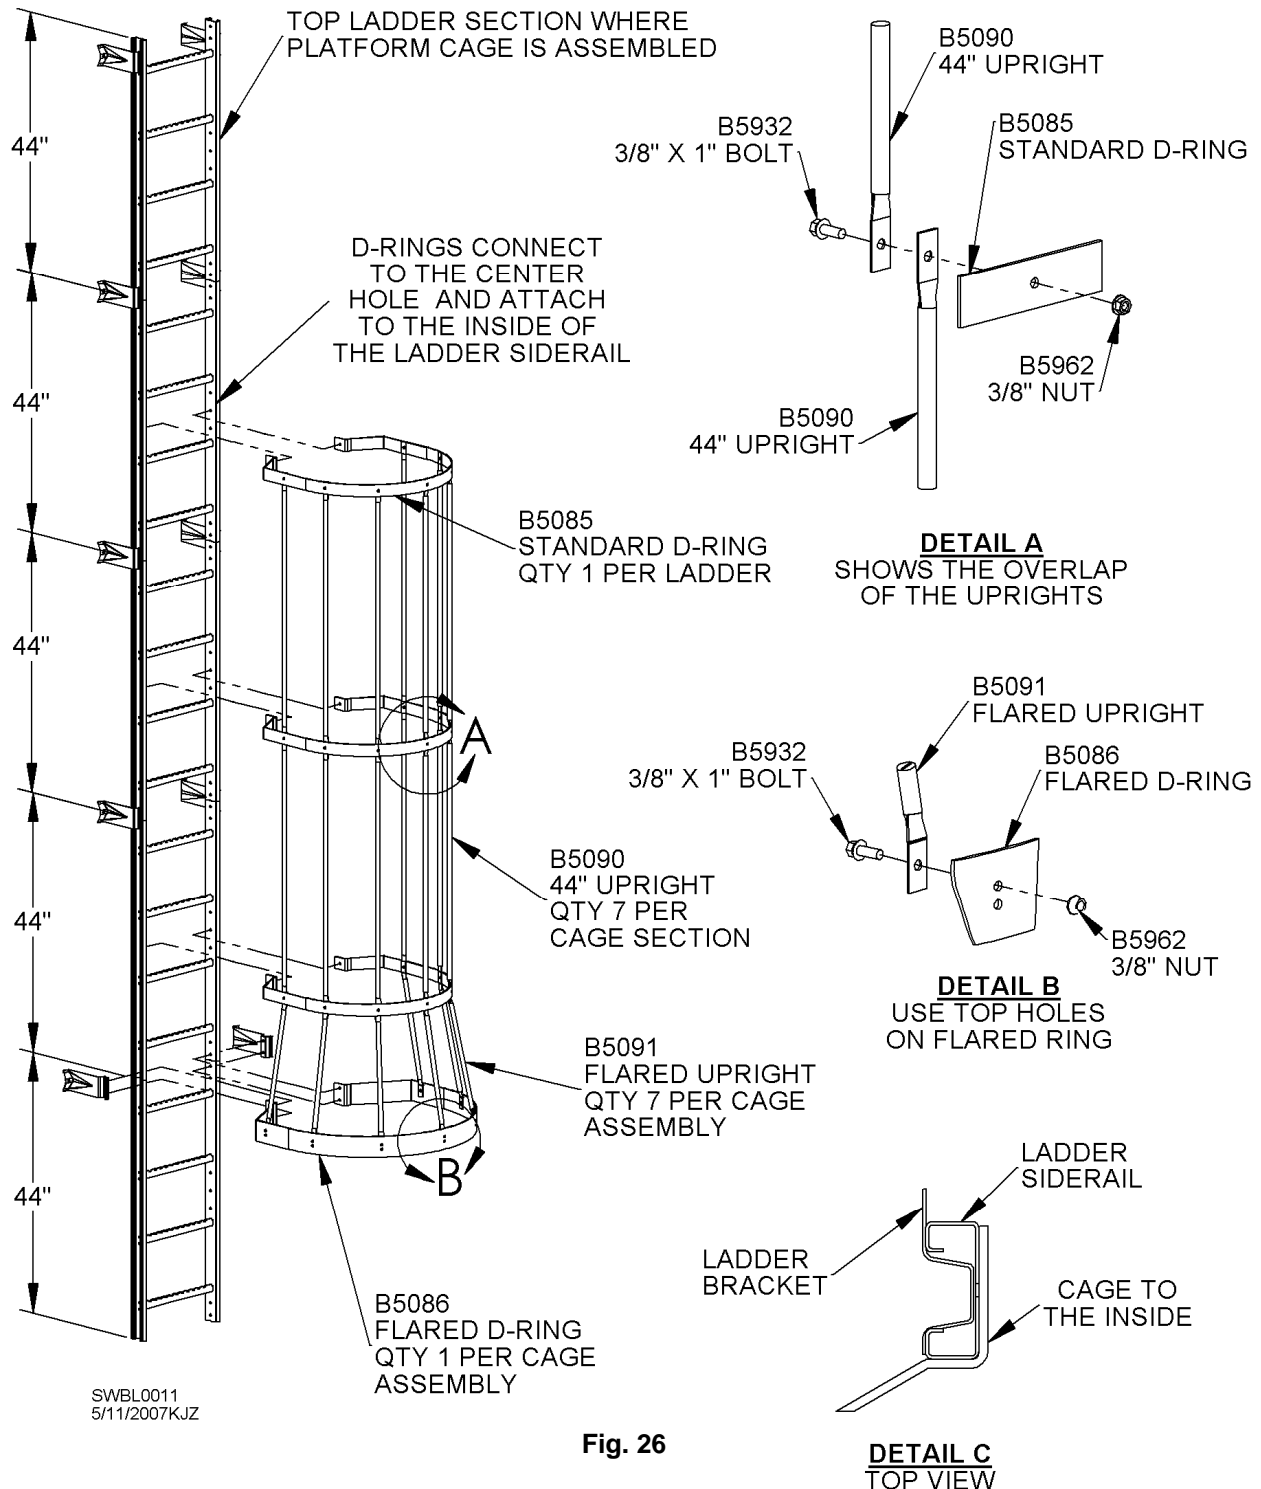

Fig. 26
As bin is built, continue to add appropriate ladder and cage sections. Refer to following pages for specific ladder and cage layouts. Cage sections consist of standard D-rings and seven (7) uprights. Standard D-rings attach to inside of ladder siderails. A flared D-ring is always used at bottom of each cage assembly. Top D-ring must be connected to center of top ladder. This allows bottom flared D-ring to be at proper height above the next surface (concrete or landing platform). Assemble standard D-rings and uprights to ladder sections with 3/8" hardware. See Fig. 26.